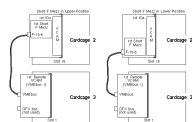
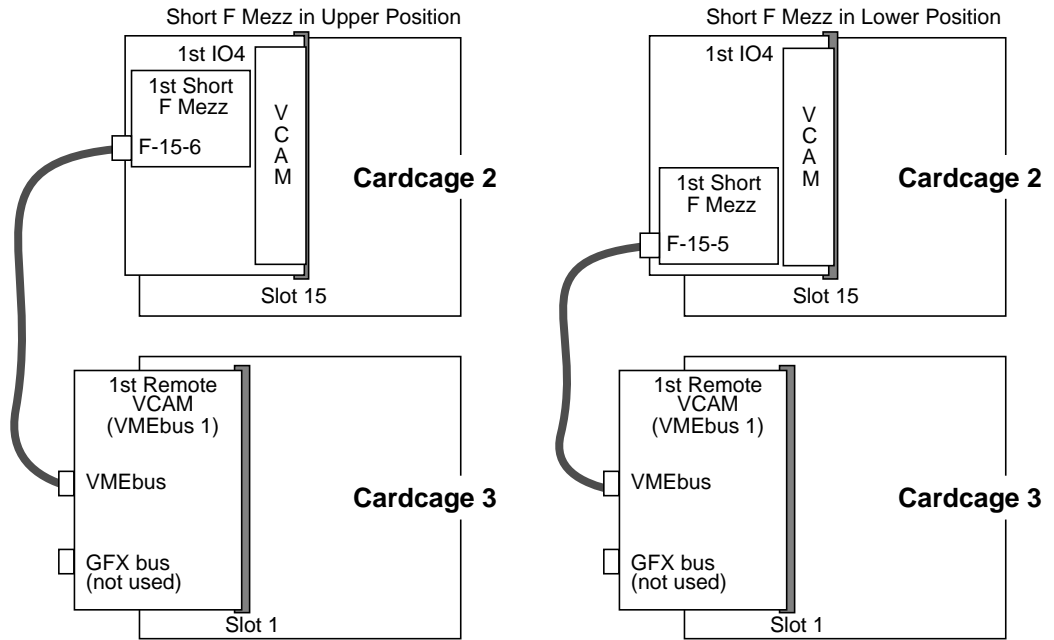

Figure 3-63 Cabling for One Cardcage 3 VMEbus with a Single Short F Mezz Card
Figure 3-64 Cabling for One Cardcage 3 VMEbus with a Single Short F Mezz Card
4. Attach a silver mylar ribbon cable to each of the two IO4 board connectors as shown in Figure 3-63 or Figure 3-64. Route the cables from CC2 down through the cable ports immediately behind the main I/O panel. Attach the remaining end of the cables to the upper connector on each of the Remote VCAM boards.